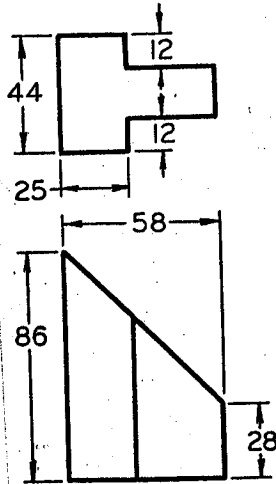

Figure Q3. **TELECOMS BOX**
3. Draw, full size, the given views of the **TELECOMS BOX** shown in Figure Q3. Draw also the following: (i) an auxiliary view of the inclined surface, (ii) a development of the surface of the **BOX**. Dimension fully.